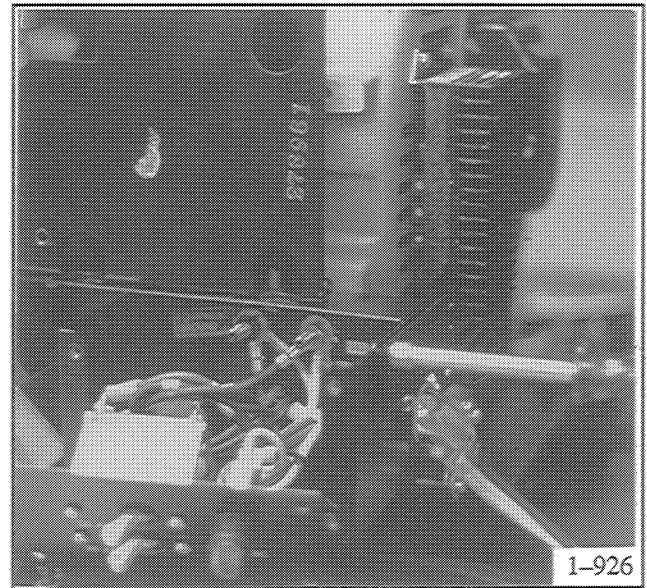

Figure 8-8. Removing Voltage Regulator Guard (Left Screw)
11. Remove one screw on side of controller box using 1/4 in. nutdriver. This will release one end of the voltage regulator guard. See Figure 8-8.